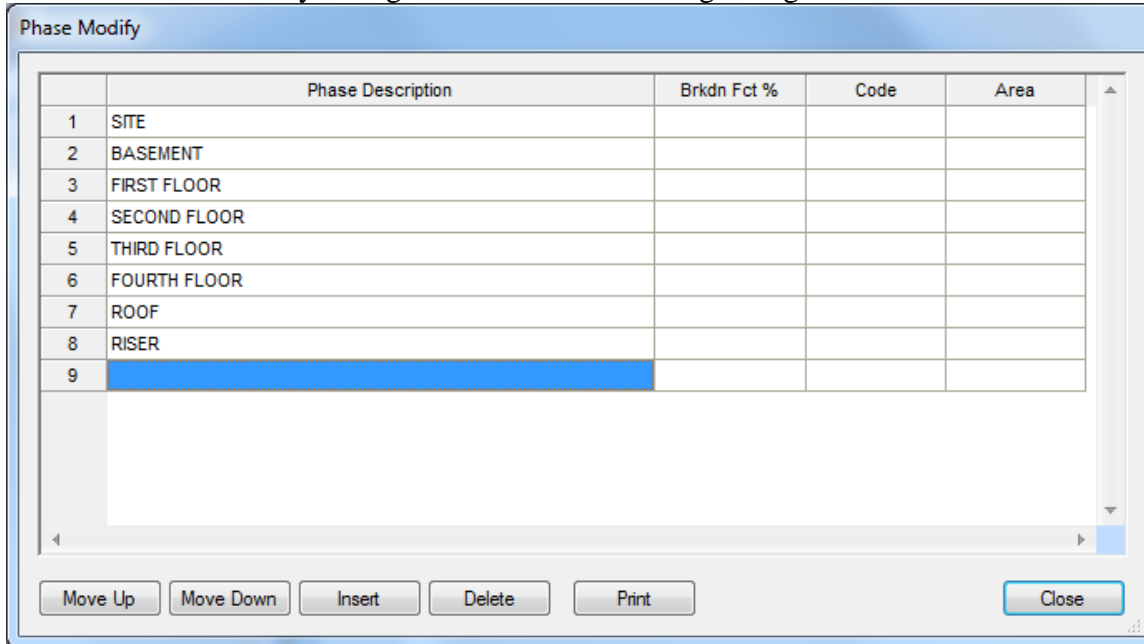

Figure 17
- The System Descriptions shown in Figure 17 are from the **Default** job.